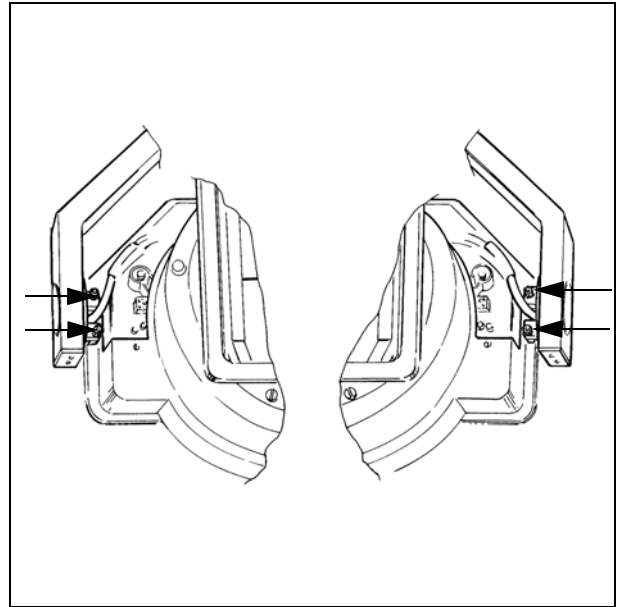

Fig. 17
- Remove the screws and nuts (Fig. 17) bolts placed in the ends of the axis of rotation.
- Install the four screws according to Fig. 17.